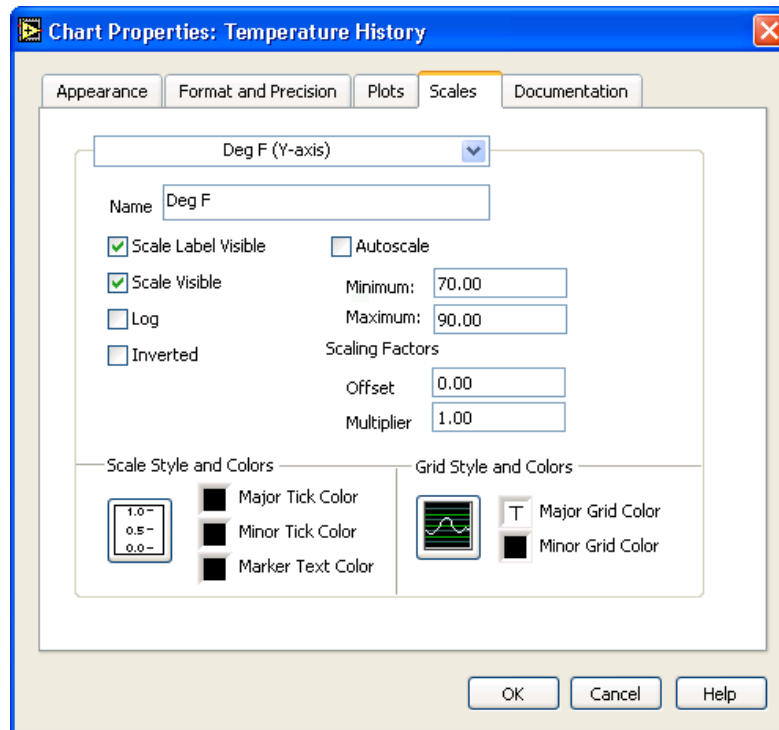

Figure 5.9
- e. In the Scales tab, select the Deg F (Y-axis) in the top pull-down menu. Set the scale options as shown in Figure 5.9.